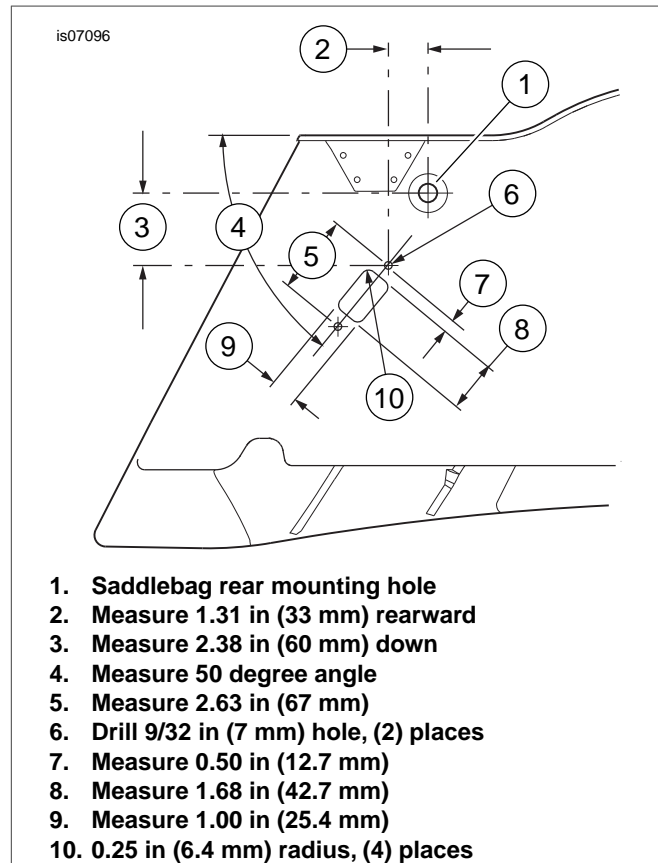

Figure 1. Cut Connector Holes in Inboard Saddlebag Wall (Left Bag Shown)
3. See Figure 1. Lay a strip or strips of masking tape in the approximate area of the holes to be made in the inboard saddlebag wall for the saddlebag jumper harness connector. Very carefully measure and mark the hole locations as shown.